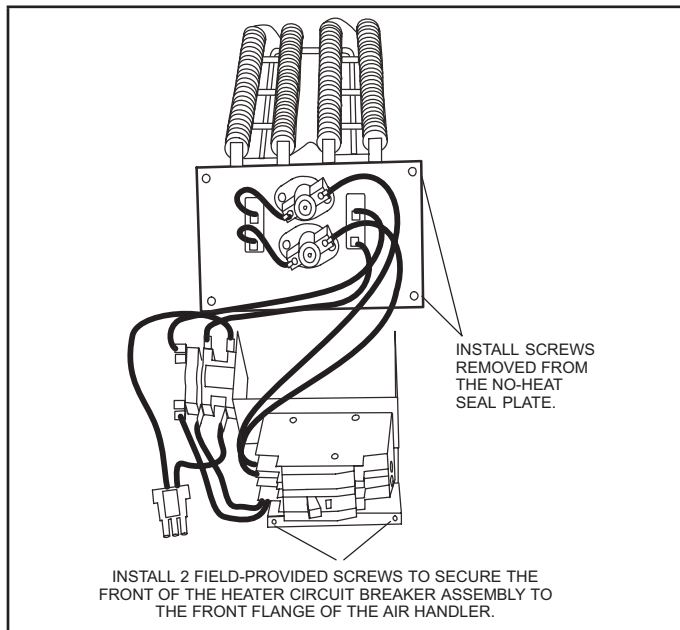

FIGURE 2. Installing the Heat Element Assembly
- 6 - Secure the electric heater assembly into place with the screws that were removed from the heat element panel. Install two field-provided #8 SDST screws in the front of the electric heater assembly (see figure 2).